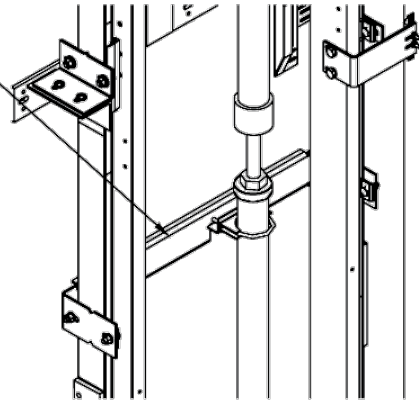

Figure 26 Jack Bracket Upstand
- 3) Mount the jack unit on top of the upstand post ensuring the male end of the jack’s base fits the female socket on the top of the upstand. Secure the top of the jack unit to the rail using the jack bracket supplied (Figure 26 and 27). Do not tighten at this time.